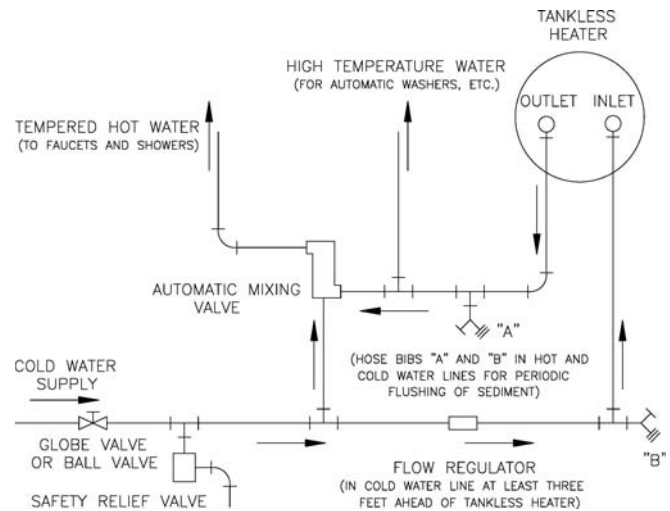

Figure 7: Domestic Hot Water Piping
C. Connect hot water piping to ½" NPT outlet of heater. See Figure 7.
D. Connect cold water piping to ½" NPT inlet of heater. See Figure 7.